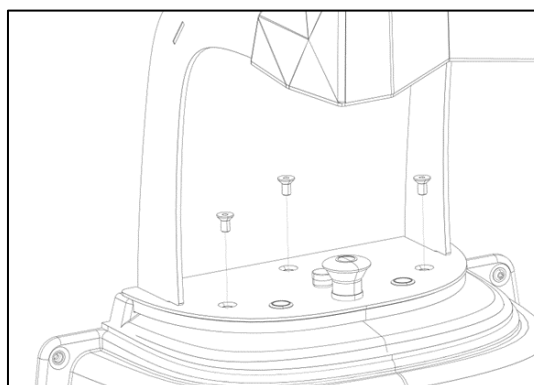

Fig. 9
8. Fasten the 3-counter sunk M8 x 16 screws (Fig. 9).